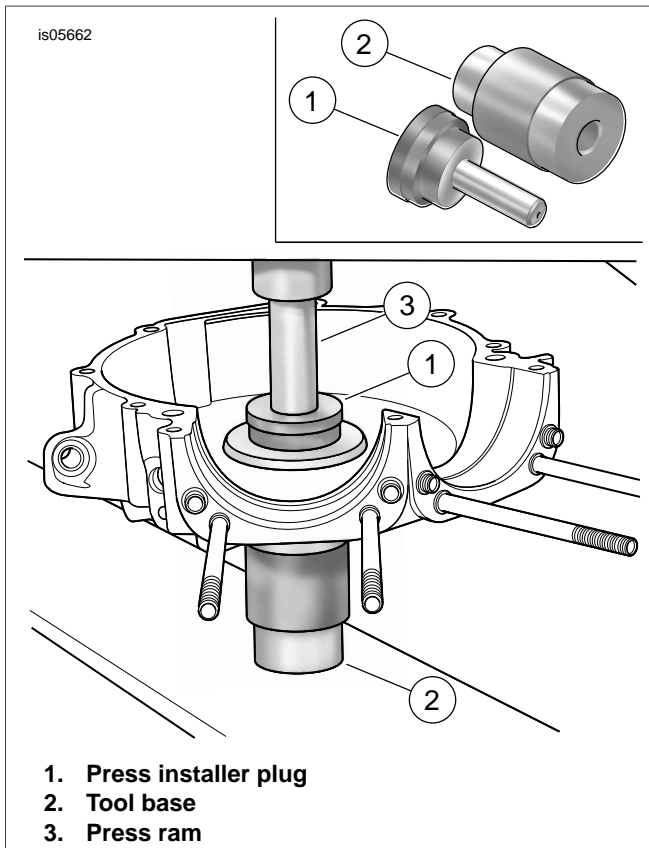

Figure 13. Sprocket Shaft Timken Bearing Cup Installer
- a. See Figure 13. Set tool base (2) on table of hydraulic press with the larger OD topside.
- e. Slide press installer plug (1) through bore (and both bearing cups) into support tube.